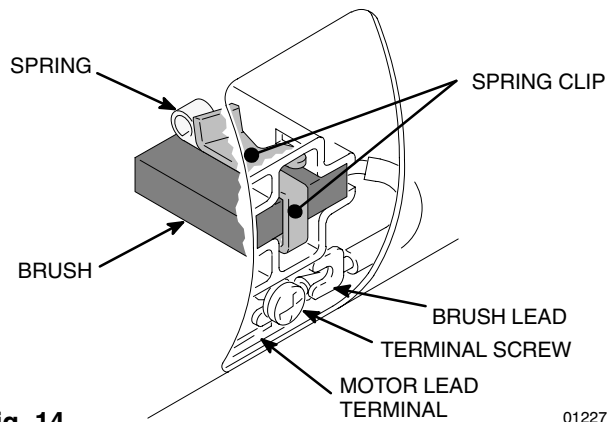

Fig. 14
4. Loosen brush lead terminal screw. Pull brush lead away, leaving motor lead terminal in place. Remove brush and spring. See Fig. 14.
7. Slide terminal under terminal screw washer and tighten screw. Be sure motor lead is still connected at screw. See Fig. 14.